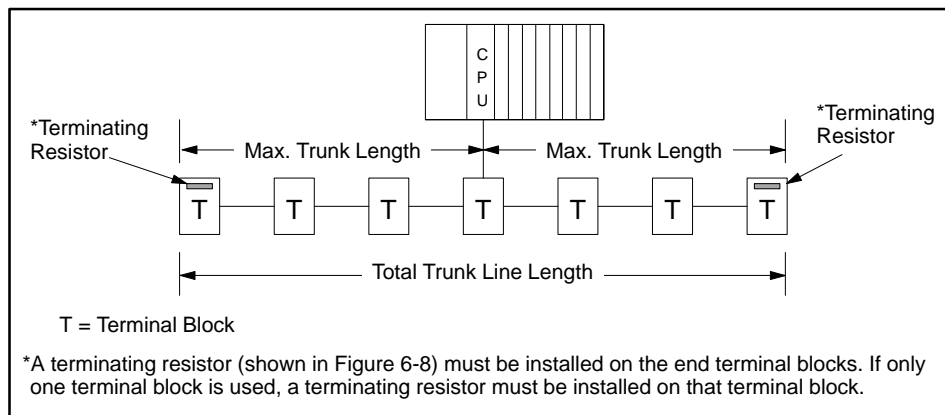

Figure 6-3 T Configuration
- By using a T configuration (Figure 6-3), you can increase the total trunk line length to twice the length specified in Table 6-2.